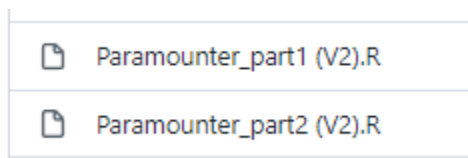

Figure 2. Paramounter part 1 and part 2 on the GitHub.
- 2) Download the R-script “Paramounter_part1 (V2).R” and “Paramounter_part2 (V2).R” separately from Github (<https://github.com/HuanLab/Paramounter.git>) as shown in **Figure 2**.